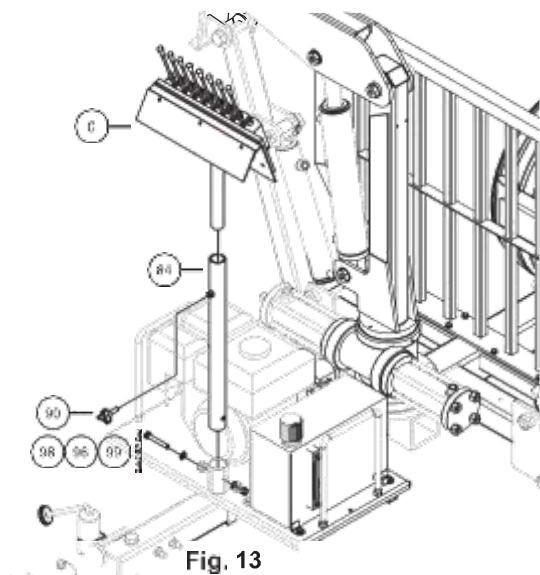
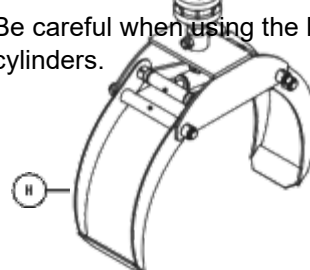

Fig. 13
Fig. 14
Step 16: Install the hydraulic steering assembly. Place the steering support rod (84) into the engine base bushing and secure the tube by installing the bolt (98), washers (96), and lock nut (99). Tighten the fastener to a torque of 38–43 Nm. Place the steering assembly (Figure 13) on the steering support rod (84) at the desired height and secure it in place with the locking knob
(90) and tightening it by hand.
Step 17: Attach the grapple and its hoses. Attach the grapple (H, figure 14) by removing the pivot pin (123) from the end of the boom arm unit. Check that the gripper hose connectors are oriented so that the boom arm hoses can be connected, and then align the gripper connection and boom arm holes. Insert the pivot pin (123) and install the nut (114). Since the grapple connection requires free movement, the nut (114) only needs to be tightened enough to touch the bottom of the pivot pin (123). Each boom arm hose is marked with a sticker that corresponds to its connection point on the grapple (see the hydraulic diagram if necessary). Match the sticker on each hose to its connection point and attach the hose. While